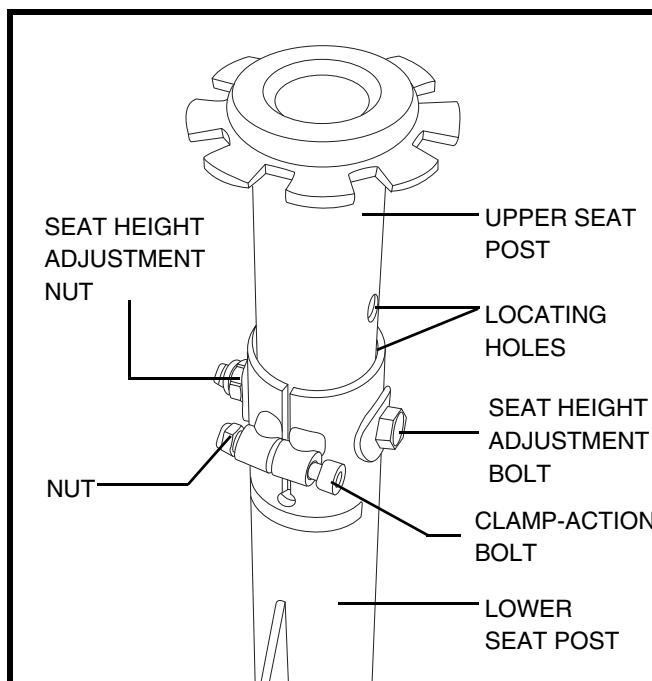

**Figure 15A. Seat Adjustment Levers**
1. Push forward on the seat rotation lever to disengage the seat. See figure 15A.
You can reposition the seat forward or rearward to adjust the distance between the seat and the tiller. See figure 15A.